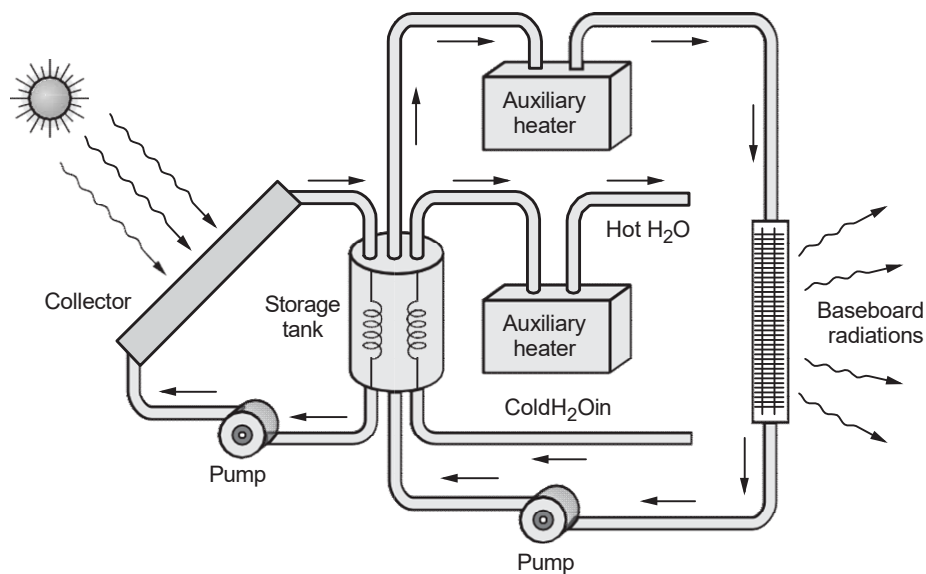

Fig. 2.10.1 Solar active space heating
- Active system consists of the following components as shown in Fig. 2.10.1